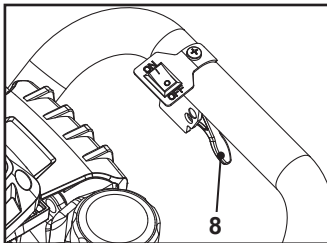

Fig. 9
1. Release the throttle trigger (8) and let the product run at its idle speed for 1-2 minutes (Fig. 9).